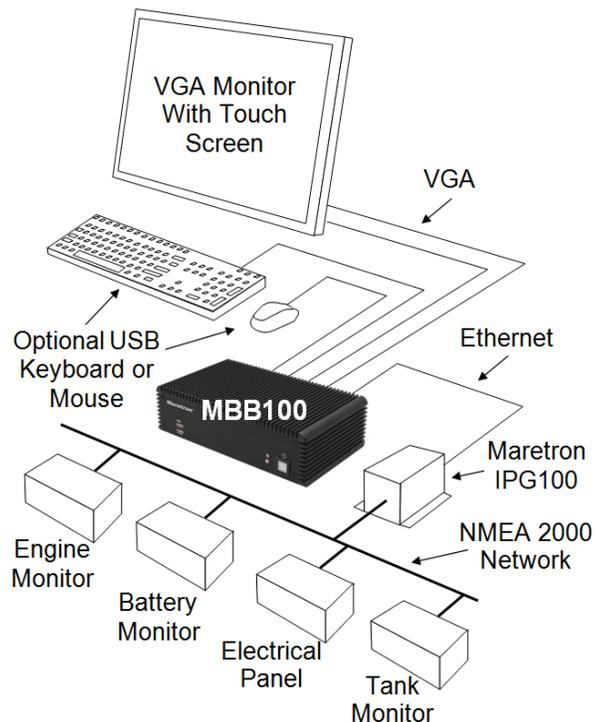

Figure 1 – MBB100 Network Diagram
The MBB100 connects to a monitor through a VGA connector and associated touch screen through a USB or serial port connection. Alternatives to controlling the N2KView[®] software through a touch screen include keyboards, mice, or track balls connected through USB. The MBB100 has an Ethernet port for communicating with an NMEA 2000[®] network (see Figure 1) through Maretron's Internet Protocol Gateway (IPG100). Alternatively, the MBB100 can network through Ethernet to a PC running N2KServer[®]. Although the MBB100 comes pre-installed with the N2KView[®] software, a separately purchased N2KView hardware license key plugged into the IPG100 (or PC) is required (see IPG100 User's Manual for more details). The Ethernet port is also used for connecting Internet Protocol (IP) cameras for viewing within the N2KView[®] software.